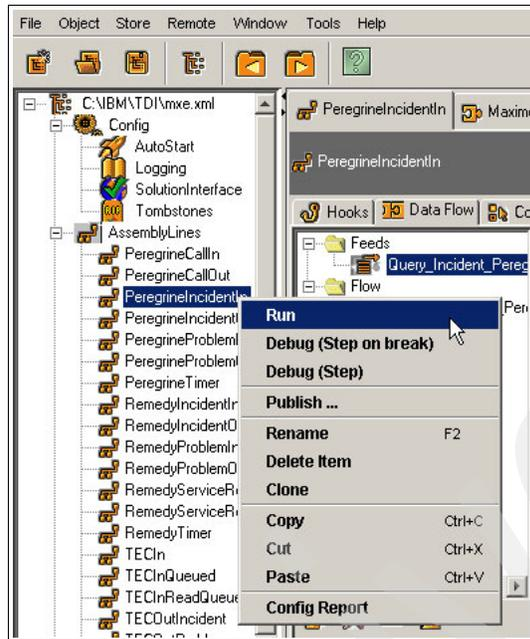

Figure 4-6 Running AssemblyLine manually
5. Run **PeregrineIncident** in the AssemblyLine to perform integration (Figure 4-6 on page 158).
- Run AssemblyLine manually as shown in Step 5., "Run PeregrineIncident in the AssemblyLine to perform integration (Figure 4-6 on page 158)." Example 4-6 on page 162 shows the output.